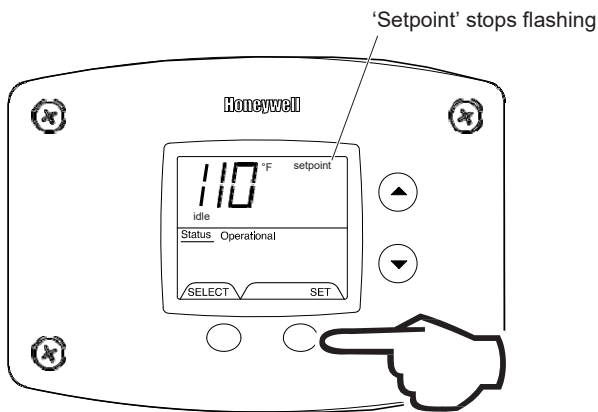

Fig. 64
5. When the desired setpoint is reached on the water heater display, press the 'Set' button to confirm the new setpoint. 'Setpoint' stops flashing in the water heater display (Fig. 64).